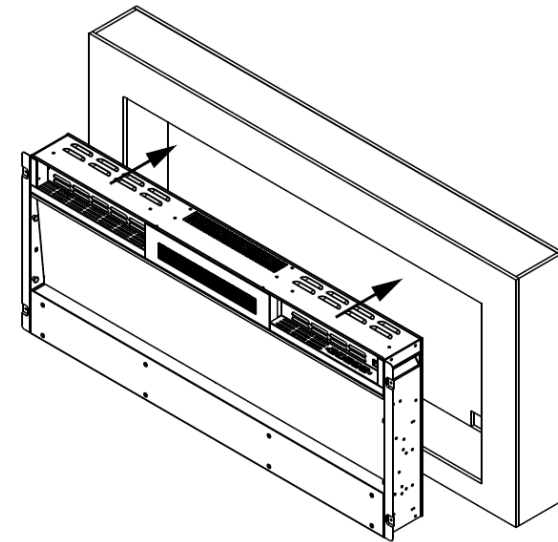

Fig.3
- Take the glass from the appliance first, then gently put the appliance to the cut hole by two persons. Please see Fig.3